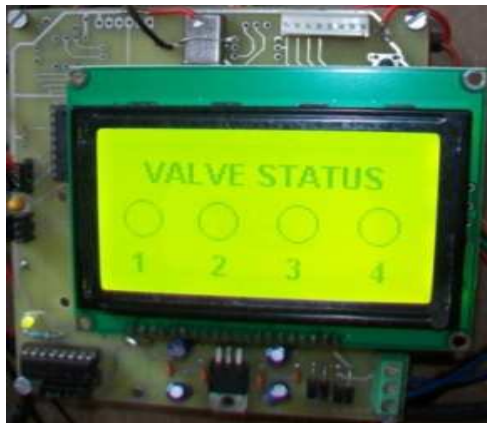

Fig.2 Valve status
2. Output of valve status on GLCD is shown in fig. 2.